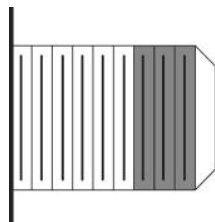
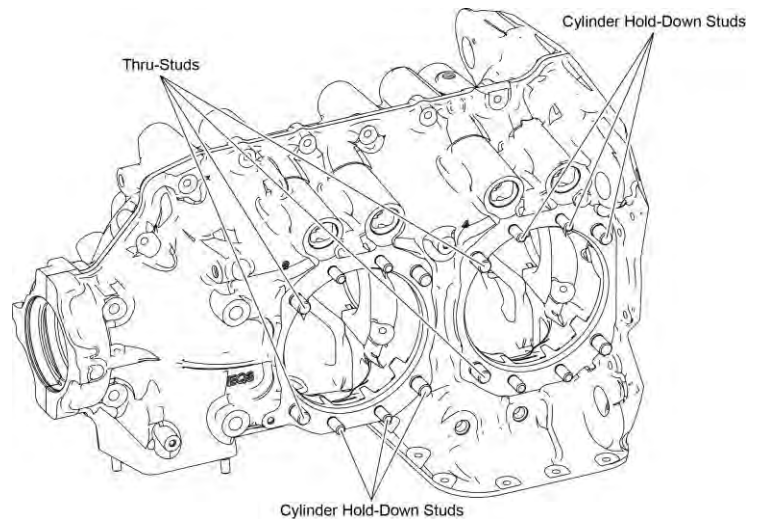

Figure 26A
Figure 26B
- D. Apply one or a combination of any of the following lubricants to the outer three threads (Figure 26A) on all of the crankcase thru-studs and cylinder hold-down studs (Figure 26B):